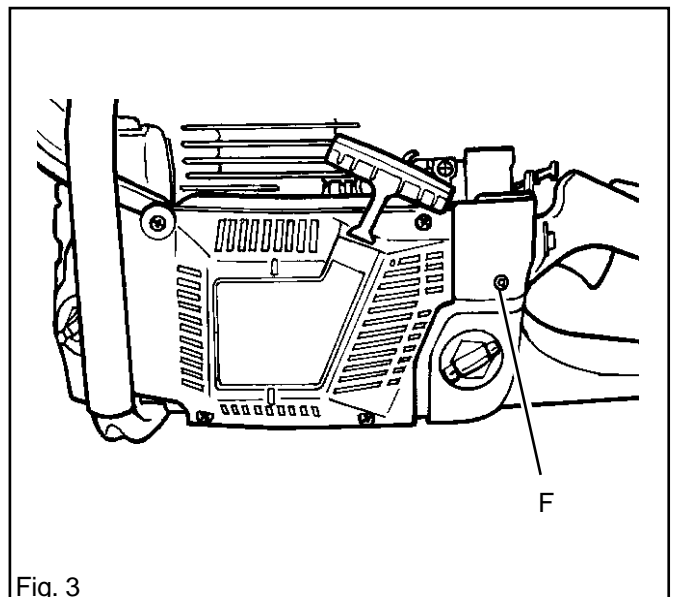

Fig. 3
7. Remove the bolt (F) from the flywheel side. See fig. 3.
11. If necessary, lift out the fuel pipe and pull off the fuel filter. Use tool 502 50 83-01, see item 22, page 7.